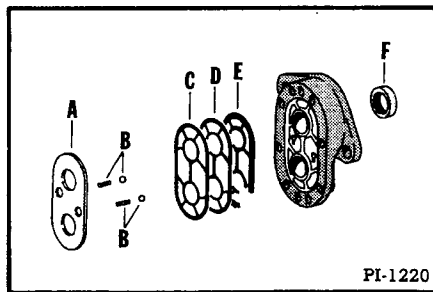

Fig. 145 Removing the Internal Parts
5. Remove these items (Figure 145) from the front plate (shaft end) of the pump:
- B. Springs (2) and steel balls (2)